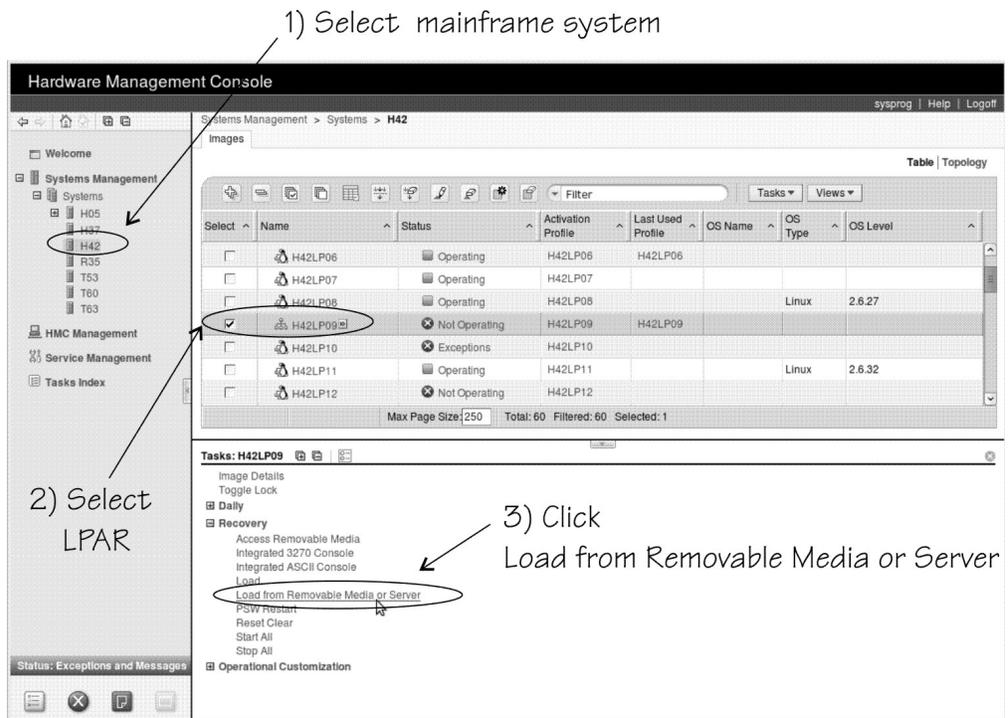

Figure 18. Load from Removable Media or Server on the HMC
3. In the **Tasks** area, expand **Recovery** and click **Load from Removable Media or Server** (see Figure 18 on page 66).